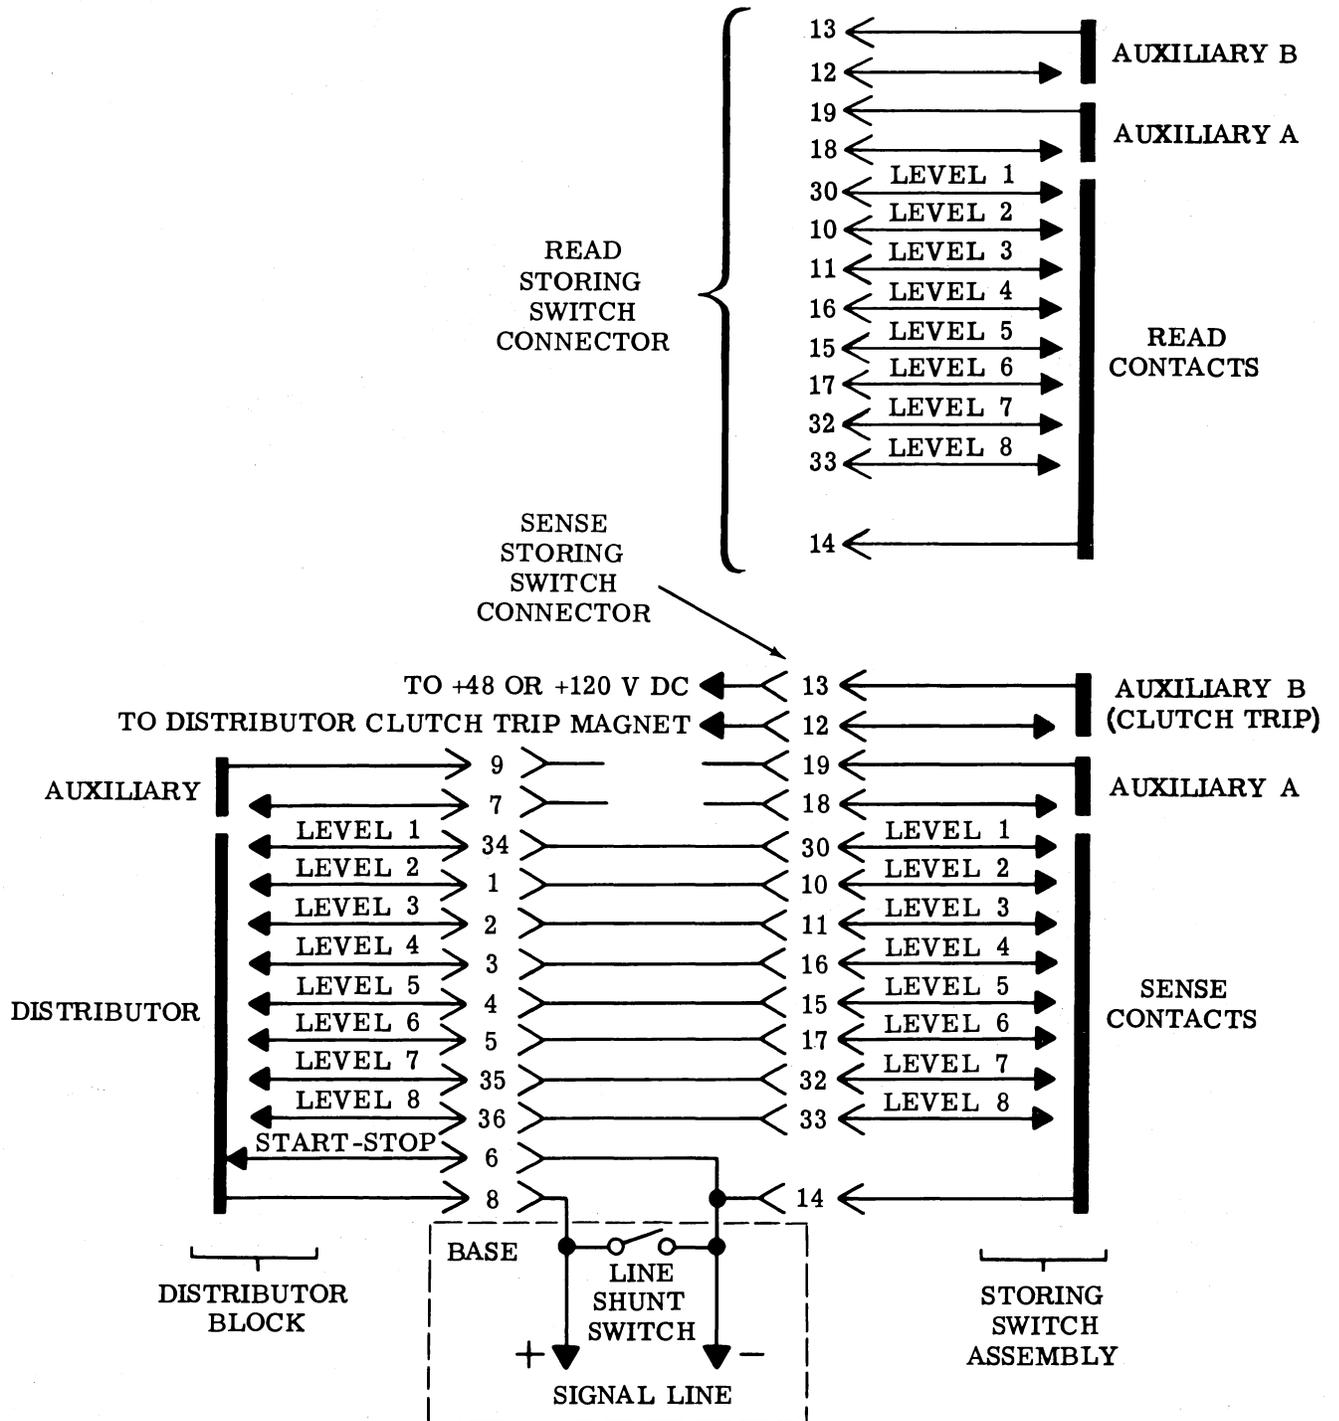

Figure 16 - Signal Circuit
8.02 At approximately 250 degrees of sensing cam sleeve rotation, the pusher levers are stripped. As the sensing cam sleeve approaches the end of the cycle, the auxiliary A contact (on the sense storing switch) opens (Figure 16).